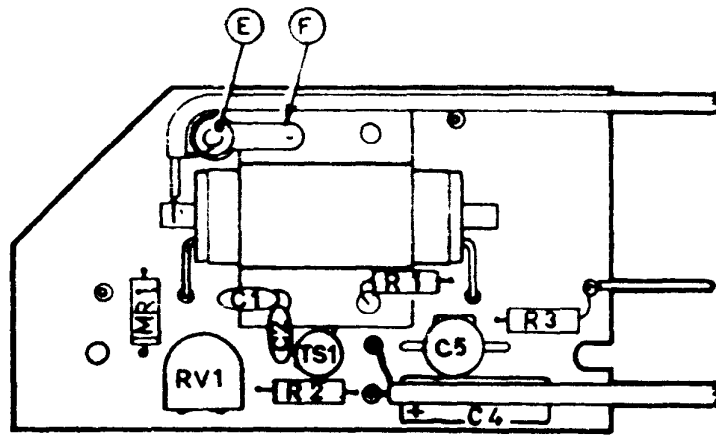

Figure 3-10 U14 Protection Unit Layout
- (1) Remove Protection Unit U14 from the honeycomb.
- (2) Remove 0.01 $\mu$ F ceramic disc capacitor C3 and replace with 1nF feedthrough capacitor (item E) and .202 solder lug (item F) as shown in figure 3-10. Retain C3 circuit designation.